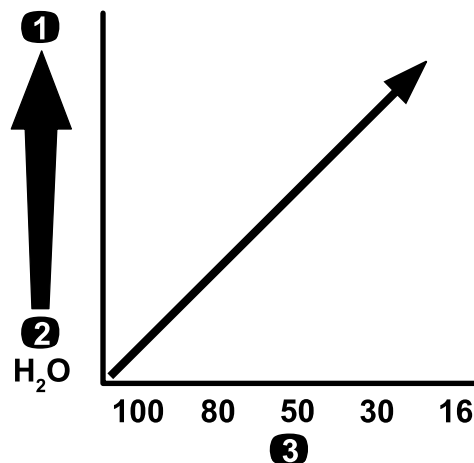

Figure 79
**Important:** When you spray with higher viscosity (thicker) chemical products or solutions with wettable powders, you may need to use a coarser screen mesh for the optional pressure-filter; refer to Figure 79.